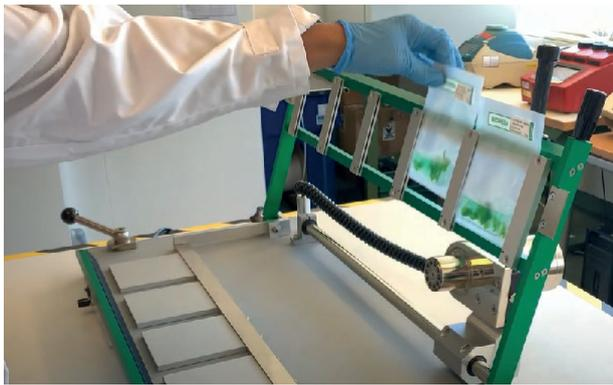

Fig. 2
- Insert up to 5 extraction bags into the rack (Fig. 2).